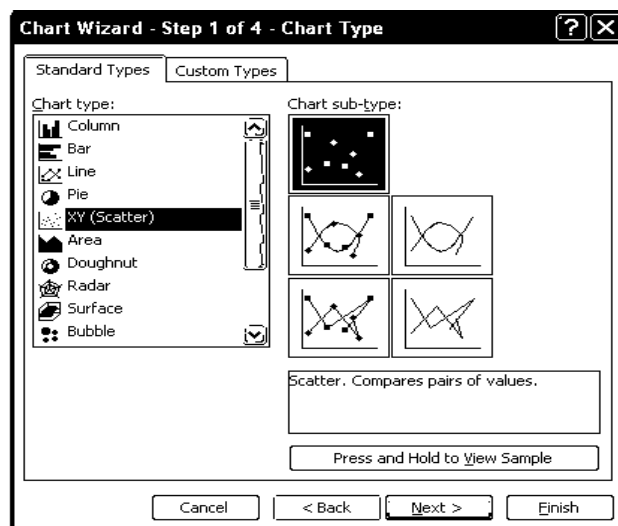

Figure 7
1. Insert > chart, the chart wizard appears or click the chart wizard button on the standard toolbar, the chart wizard appears (**Fig. 7**).